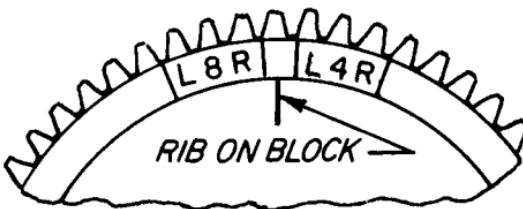

Figure 5-2. Timing Marks - 4 cyl. 1200 Series
(1) Remove a spark plug from No. 1 cylinder and place a thumb over the spark plug hole. Rotate the crankshaft in direction of normal rotation until the compression stroke is reached, this is indicated by a positive pressure inside the cylinder tending to push the thumb off the spark plug hole. Continue rotating the crankshaft until the advance timing mark on the front face of the starter ring gear is in alignment with the small hole located at the two o'clock position on the front face of the starter housing. (Ring gear may be marked at 20° and 25°. Consult specifications for correct timing mark for your installation.) At this point, the engine is ready for assembly of the magnetos.
(2) *Single magneto* - Remove the inspection plugs from both magnetos and turn the drive shaft in direction of normal rotation until (-20 and -200 series) the first painted chamfered tooth on the distributor gear is aligned in the center of the inspection window (-1200 series) the applicable timing mark on the distributor gear is approximately aligned with the mark on the distributor block. See figure 5-2. Being sure the gear does not move from this position, install gaskets and magnetos on the engine. Note that an adapter is used with impulse coupling magneto. Secure with (clamps on -1200 series) washers and nuts; tighten only finger tight.